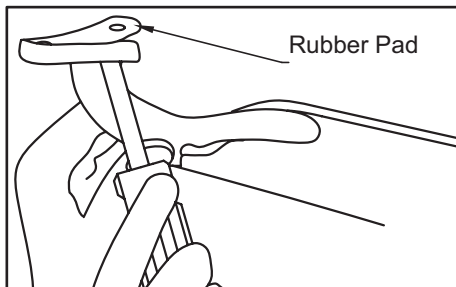

Figure 10
3. Fasten the blade assembly to the motor using the screws supplied (Figure 10).